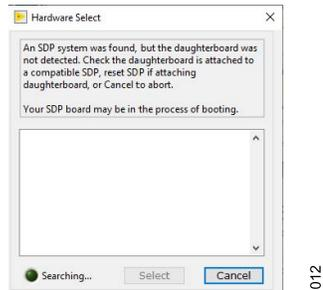

Figure 11. SDP Drivers Install
- 6. The driver installation then installs the Windows drivers. If **Windows Security** requests permission to install, click **Install** (see Figure 11).